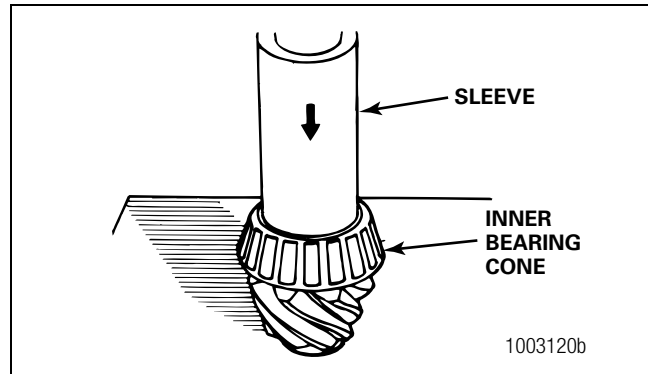

Figure 5.2
4. Place the drive pinion in a press with the gear head or teeth toward the bottom. Figure 5.2.